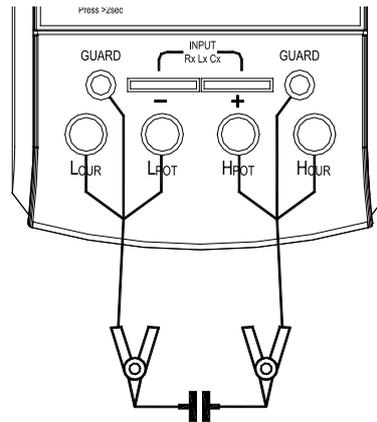

Figure 11
- b. Insert the black and red testing lines with alligator clip into the "LCUR", "LPOT" terminal and "HCUR", "HPOT" terminal respectively. Connect the alligator clips to the two ends of capacitance corresponding to its polarity (shown in figure 11).